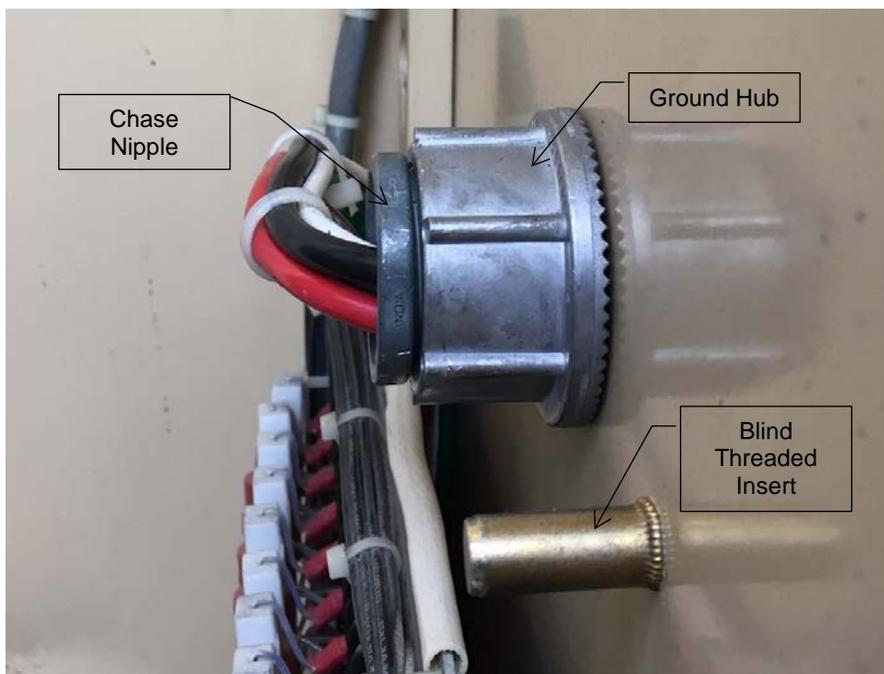

Figure 3 Ground Hub and Chase Nipple Inside Traffic Signal Cabinet
- c. The hub with captive o-ring gasket and chase nipple is placed in the traffic signal cabinet (Figure 3).